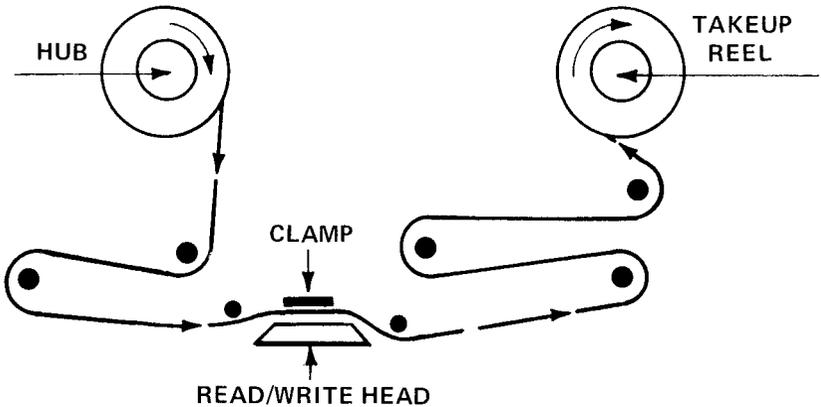

Figure 1. TAPE THREADING DIAGRAM (556,800 bpi)
2. Thread the tape as shown in Figure 1. While threading, it will help to keep tension off the leader by manually unwinding (clockwise) the lefthand reel as tape is pulled through the threading path.